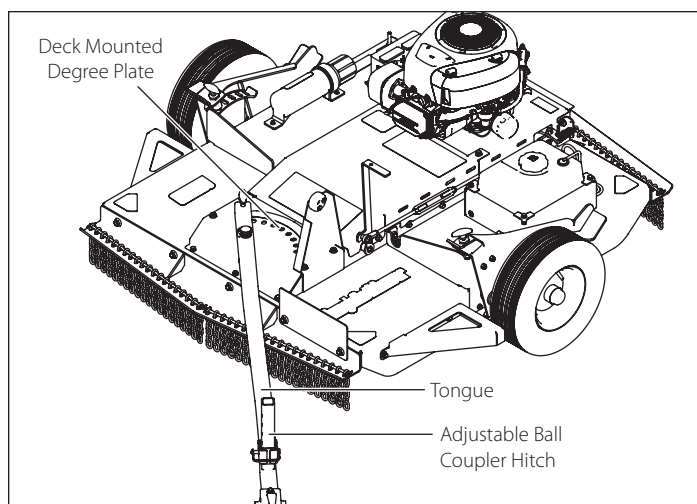

Figure 8
1. Remove hitch height adjustment pin and slide hitch up or down in tube to reach desired height. See Figure 8.